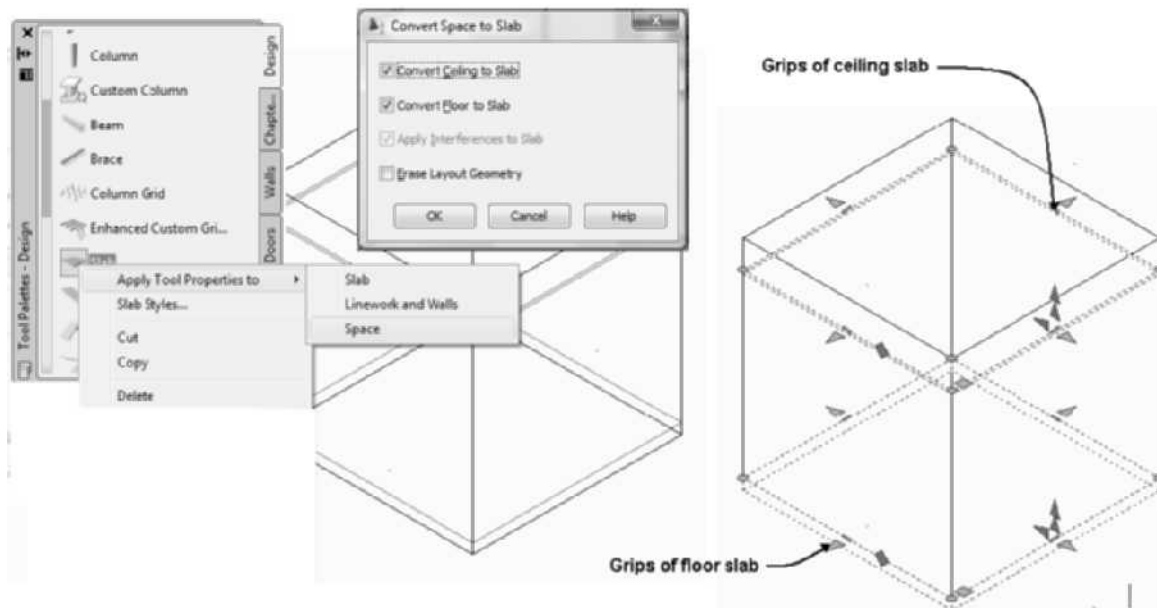

FIGURE 8.6 Slab created from space
- Select spaces to convert: (Select a space at p1 as shown in Figure 8.6.) 1 found
- (Edit the Convert Space to Slab dialog box; check Convert Ceiling to Slab and Convert Floor to Slab, as shown in Figure 8.6. Click OK to dismiss the dialog box.)